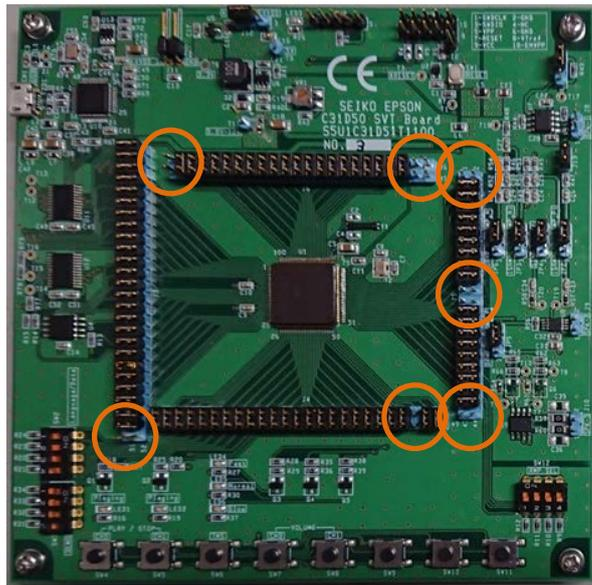
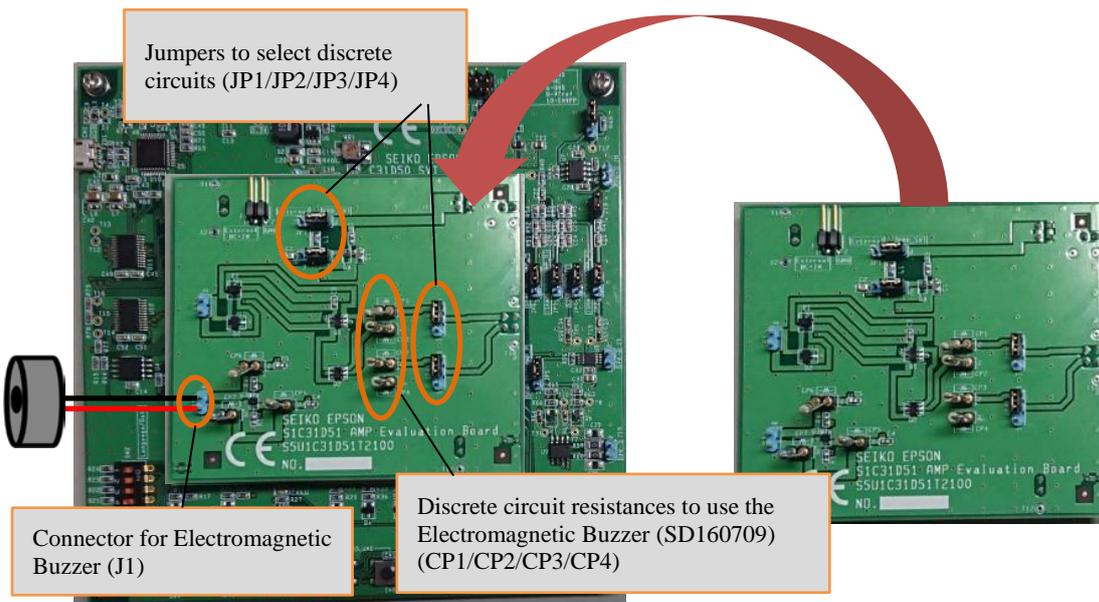

Figure 3.20.3 Settings of the board (S5U1C31D51T1) when connected to S5U1C31D51T2)
Figure 3.20.4 Settings and resistances of S5U1C31D51T2 when Electromagnetic buzzer is used
1. Connect Buzzer Evaluation board (S5U1C31D51T2) to S5U1C31D51T1 as matching direction of both silks. (see Table 3.20.3, Figure 3.20.3, Figure 3.20.4)
2. Check the jumper settings and resistances of the board. (see Table 3.20.4, Figure 3.20.4)